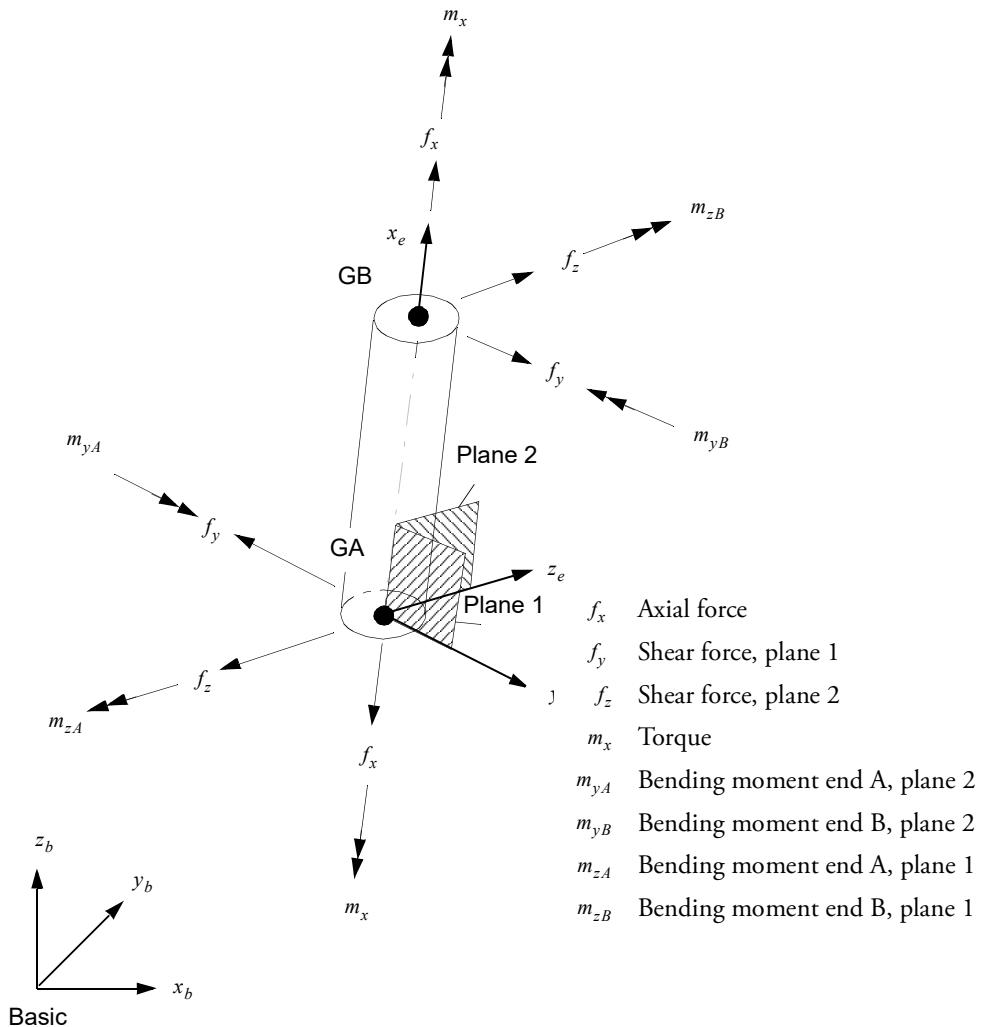

Figure 9-88 Element Coordinate System and Sign Convention of Element Forces
12. Forces and moments are output in the element coordinate system, see Figure 9-88. The element coordinate system is constructed using the following rules: